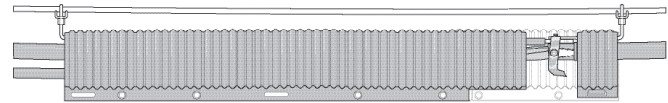

Figure 2
7. Position TRAC closure body as shown in Figure 2 to determine appropriate cut length. Using snips, cut the closure body flaps. using the sheath knife, score convoluted section of the TRAC closure body. Break body apart.
C Closure Only: Position TRAC closure body, as shown in Figure 2 to determine appropriate cut length.